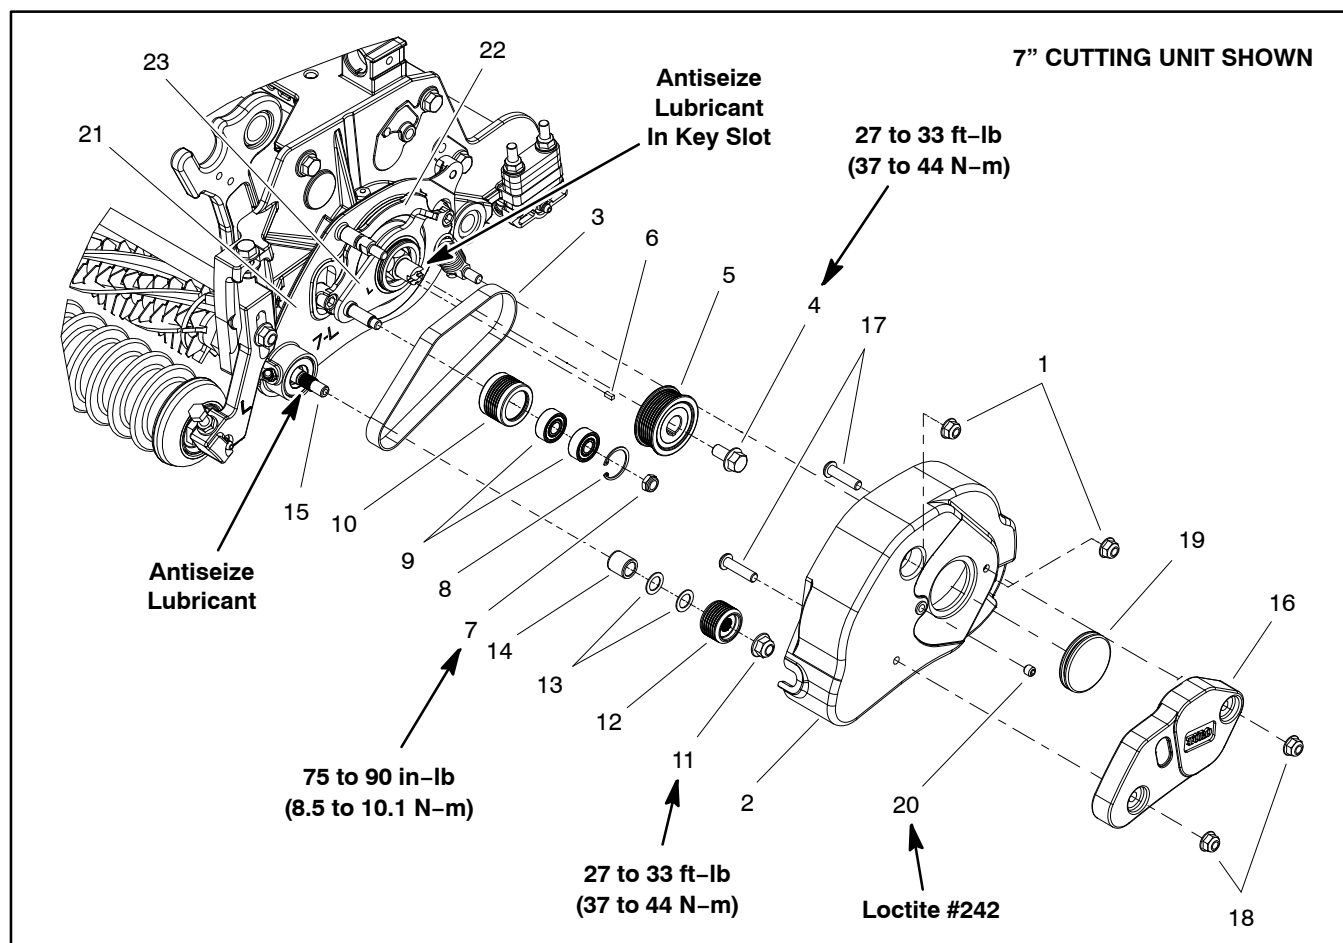
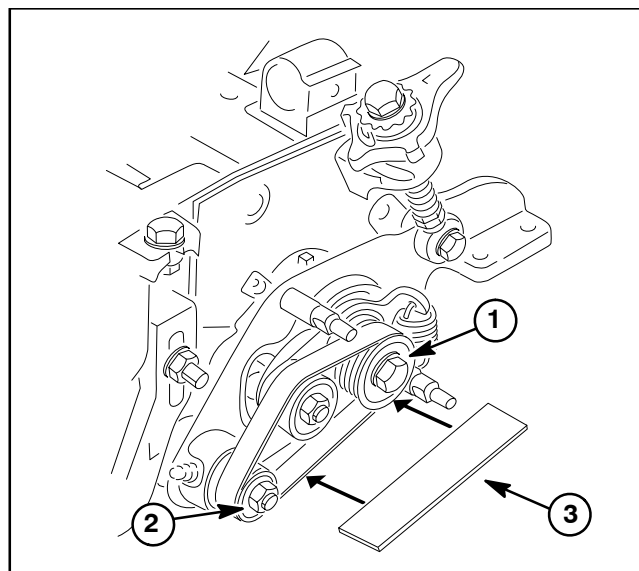

Figure 8
Figure 9
NOTE: The groomer drive is located on the opposite side of the cutting unit from the cutting reel motor. Figure 8 shows components used when the groomer drive is on the left side of the cutting unit.
Disassembly (Fig. 8)
3. Remove two (2) flange nuts that secure groomer cover, then remove cover.
5. As needed, remove drive pulley (item 5), driven pulley (item 12) and idler pulley (item 10) using Figure 8 as a guide.
Assembly (Fig. 8)
3. If drive pulley (item 5) was removed, apply antiseize lubricant to key slot in shaft. Place square key into shaft slot. Slide drive pulley onto shaft and secure with flange head screw. Torque screw from **27 to 33 ft-lb (37 to 44 N-m)**.
4. Check pulley alignment by laying a straight edge along the outer face of the drive pulley (Fig. 9). Drive and driven pulleys should be in line within 0.030" (0.76 mm). If necessary, align pulleys by removing driven pulley and installing or removing washer(s) (item 13 in Figure 8) between pulley and pulley spacer. Do not use idler pulley to check pulley alignment.
5. Install drive belt to drive pulley, idler pulley and driven pulley observing correct belt routing (Fig. 9). Make sure that groomer drive belt is above idler pulley after belt installation and also that the ribs on drive belt are seated in grooves in each pulley.
6. Install groomer cover and secure with two (2) flange nuts.